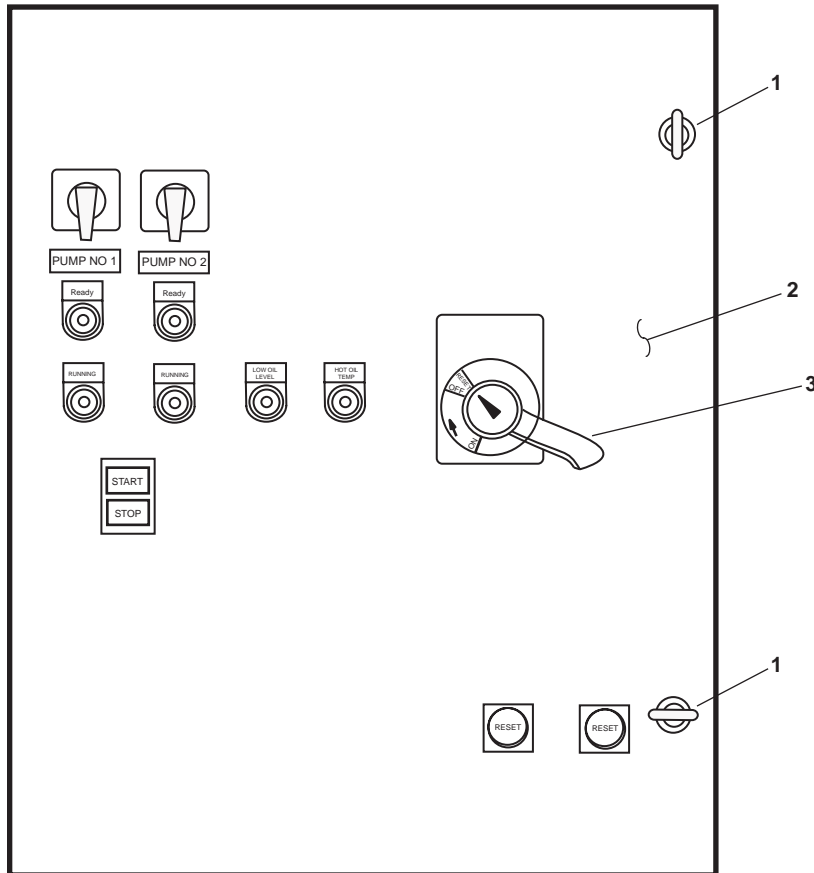

Figure 1. Central Hydraulic System Power Unit Motor Controller
1. Loosen the two latches (figure 1, item 1) that secure the controller door (figure 1, item 2).
2. Set the MAIN SWITCH (figure 1, item 3) to OFF.
3. Open the controller door (figure 1, item 2).